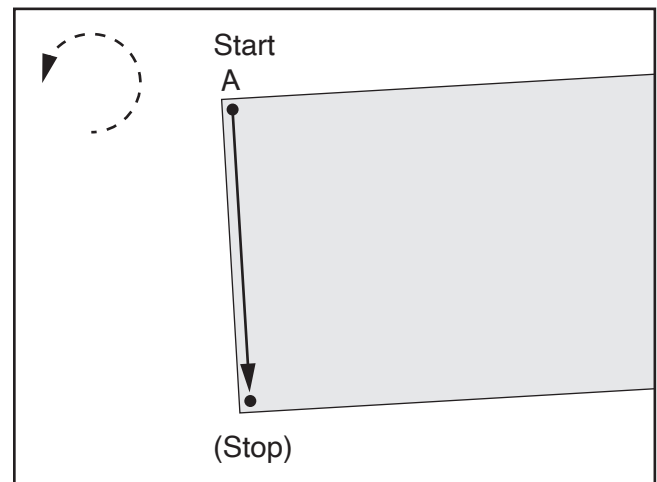

Figure 23. Workpiece turned counterclockwise.
3. Turn workpiece counterclockwise slightly (see **Figure 23**).